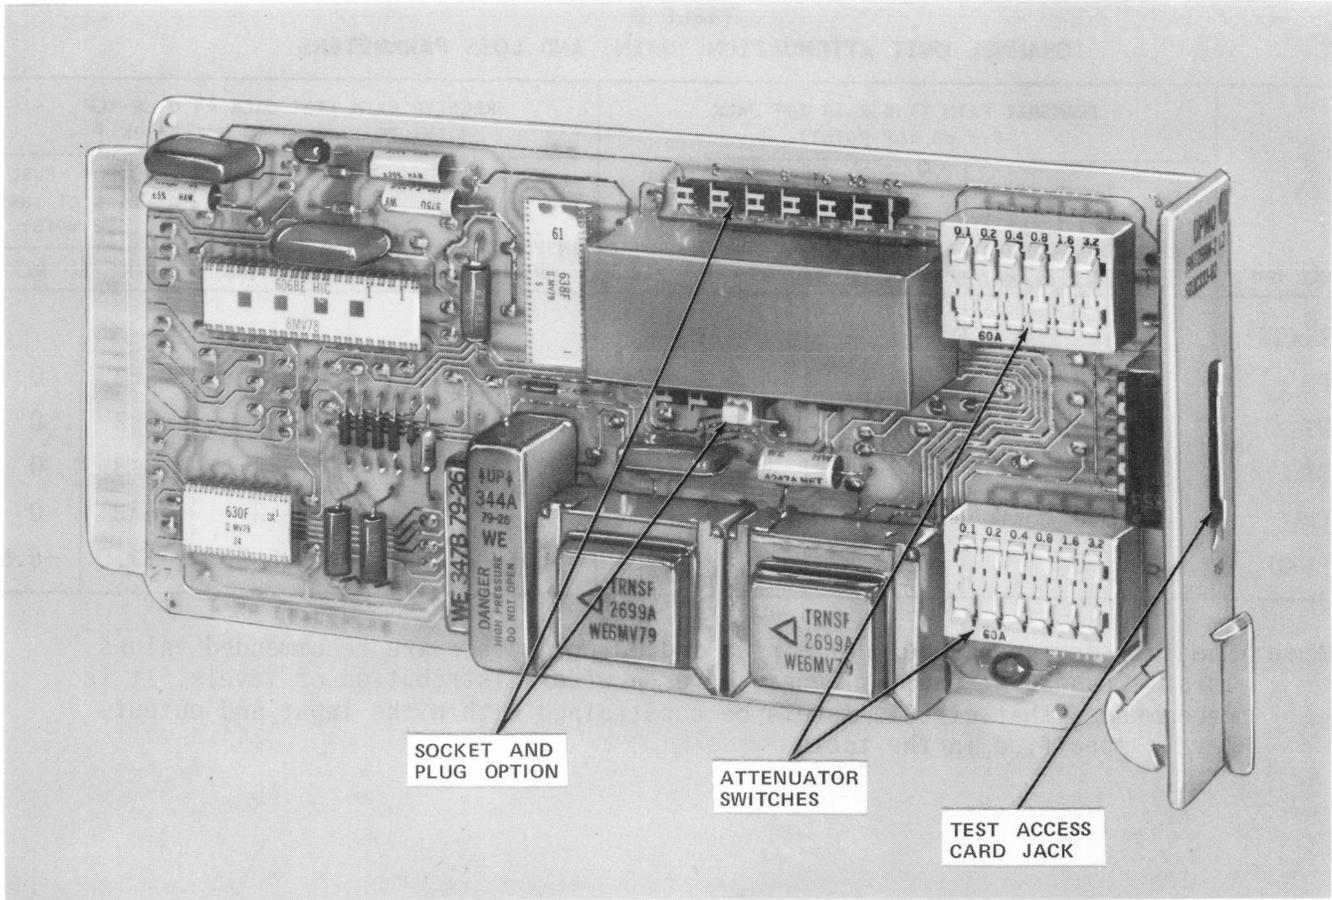

Fig. 1 — Typical 2-Wire Dial Pulse D4 Channel Unit
1.01 This section provides a description of both 2-wire and 4-wire dial pulse D4 channel units. Table A identifies each unit described in the section and shows the J-code and SD/CD number. Fig. 1 is a typical example of a 2-wire channel unit and Fig. 2 shows the 4-wire loop-simplex channel unit. These message channel units provide interface between dial pulse or multifrequency pulse circuits and either originating or terminating equipment. The interface is provided between the trunk circuit, selector or rotary-out-trunk switches, and the D4 common circuits on the line side.